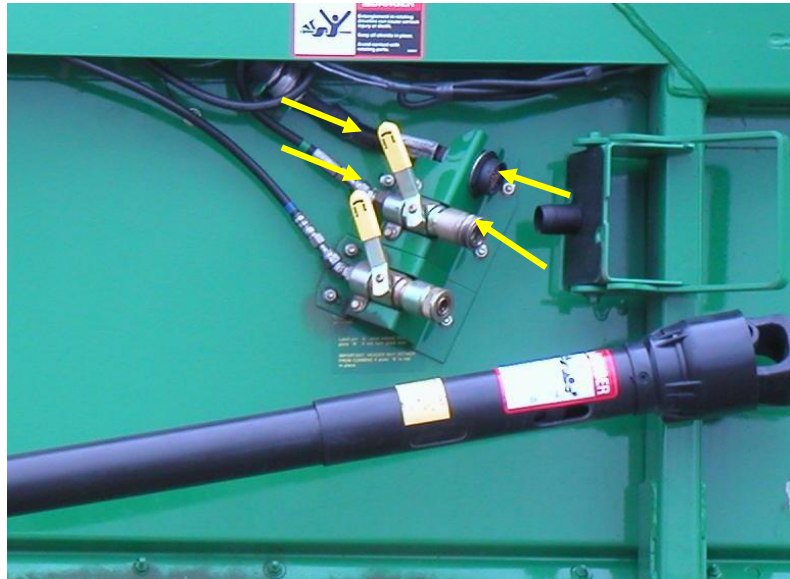

Figure 7
3. Mark the four mounting holes on the header through the holes on the bracket (LAN – 172176) and drill with an 8MM or 5/16” drill bit. (See Figure 7)